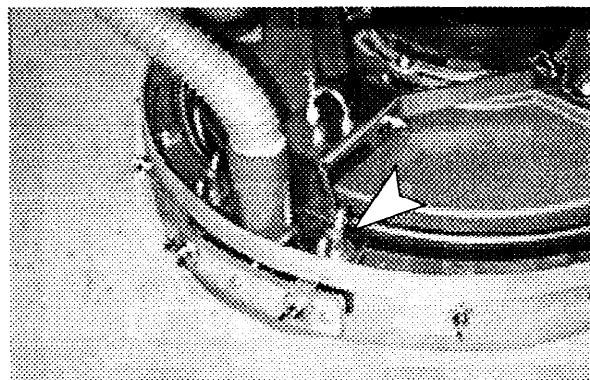

FIG. 5.
- Carefully install (6) batteries into compartment and arrange battery posts as shown. (Figure 5)
- Connect cables to battery posts in numerical order as labeled. Use rubber boots provided. (Figure 5)
- Loosen (2) wing screws on squeegee mount bracket and slide the squeegee assembly onto the bracket. Washers should be on top of the bracket. (Figure 5)
3. Attach vacuum pickup hose to squeegee assembly as shown. (Figure 5)